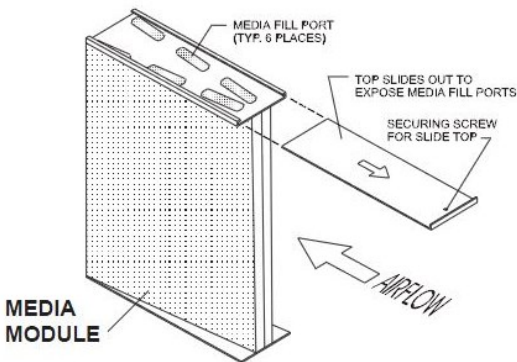

Figure 5-5-1
The Loose Fill type the odor control media is housed in steel reusable Media Modules that can be replenished with Loose Fill media (refer to Figure 5-5-1). With Loose Fill media a 30% pleated media After Filter located immediately downstream of the Media Models is required.
5. Remove the securing screw and slide the cover plate off (Refer to Figure 5-5-1).